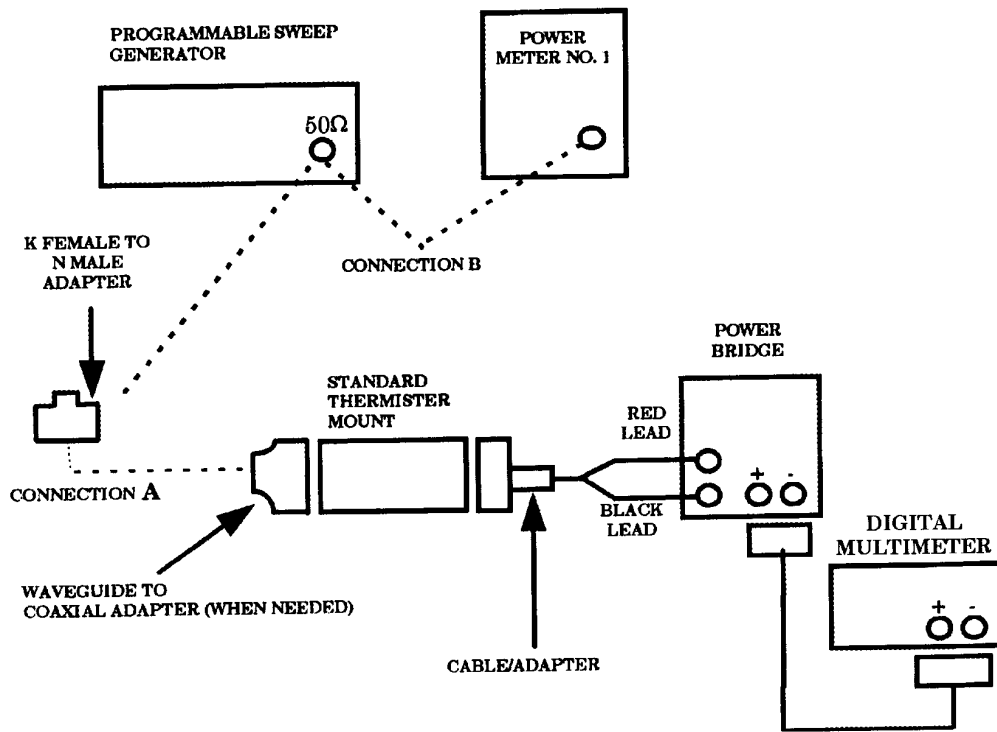

Figure 2. Thermistor mount/power sensor (10 to 40 GHz) - equipment setup.
- e.** Connect equipment as shown in figure 2.
(7) Connect equipment as shown in either figure 2 or 3, CONNECTION B.
(8) Allow enough time for TI to stabilize and record power meter No. 1 indication.
(9) Use formula below and calculate substituted dc power level for standard thermistor mount.